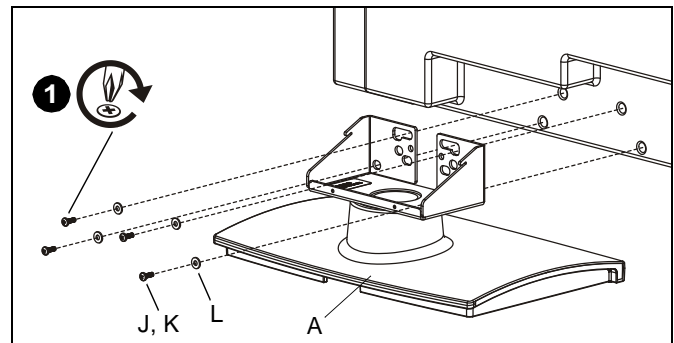

Figure 7
1. Select proper screw diameter by examining screws (J, 4mm; K, 6mm) and comparing with mounting holes on display. Install selected screws (J or K) through washers (L) and stand (A) into display (See Figure 7).
NOTE: Figure 7 shows typical installation. Stand (A) accommodates multiple Dell displays. Choose holes/slots in stand (A) that match mounting hole pattern in display. Cables not shown for clarity.